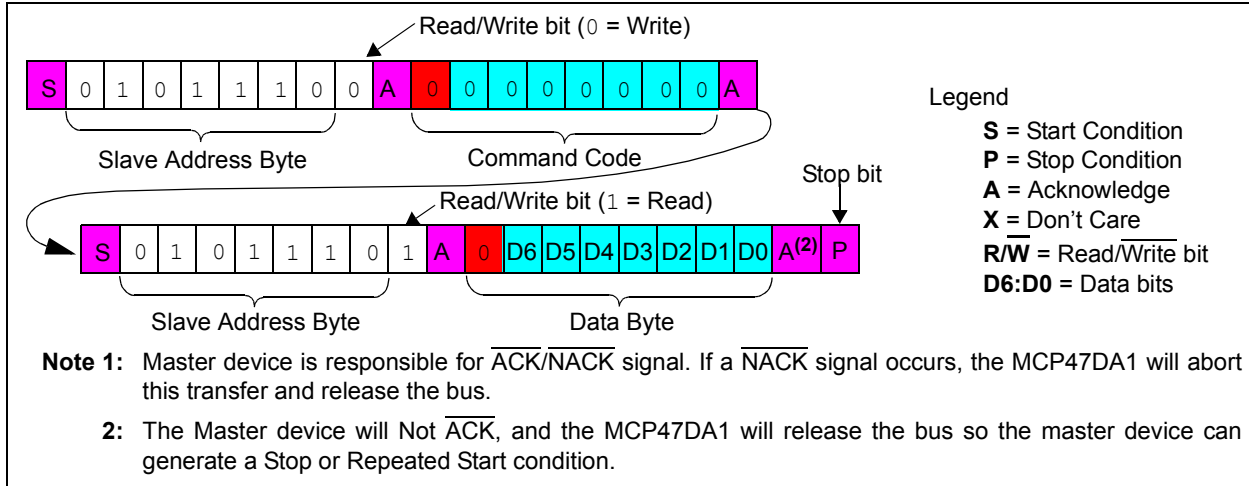

FIGURE 5-14: I2C Read Command Format.
The command is terminated once a Stop (P) or Restart (S) condition occurs. Refer to Figure 5-14 for the read command sequence. For a single read, the master sends a Stop or Restart condition after the first data byte (and A bit) is sent from the slave.